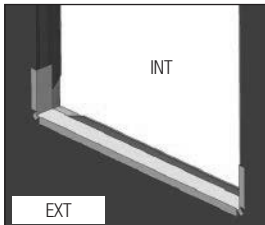

FIG. 7
- D) Apply sill flashing to the rough opening as shown below. (Fig. 7)